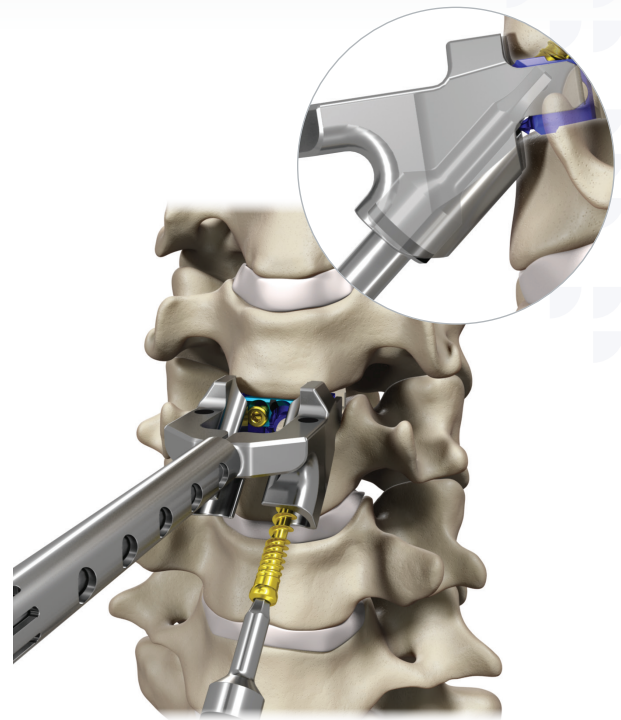

Figure 29
- Assemble the 2.0 mm hex driver and modular spin cap handle. Load the desired screw onto the driver and insert the screw through the first lateral screw hole until the screw head contacts the plate to stabilize the implant provisionally. Ensure that the Driver is on axis to the prepared screw trajectory during screw insertion and final tightening (Figure 29).
- The driver laser marking approaches the edge of the guide tube to indicate the screw is nearly seated (Figure 29, inset).